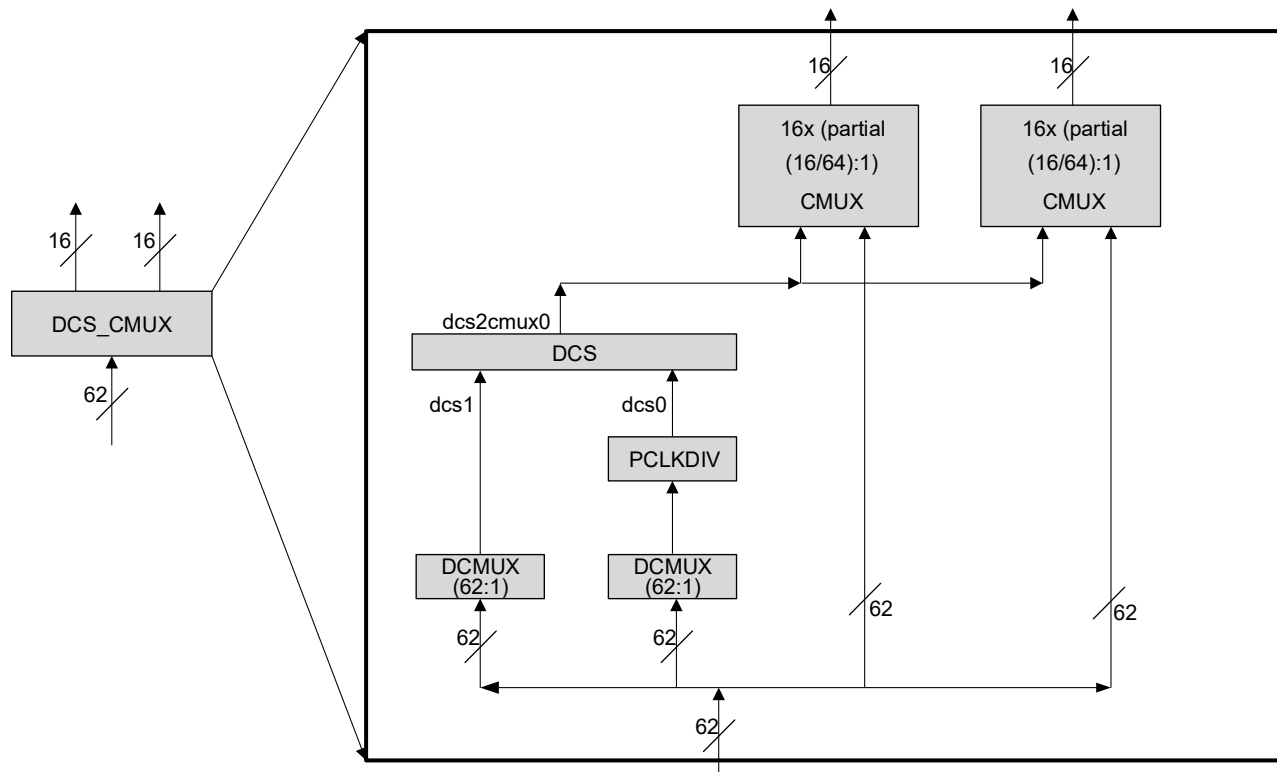

Figure 2.9. DCS_CMUX Diagram
The PCLKDIV supports $\div 2$, $\div 4$, $\div 8$, $\div 16$, $\div 32$, $\div 64$, $\div 128$, and $\div 1$ (bypass) modes. The PCLKDIV is fed from a DCSMUX within the DCS_CMUX block. The divider output drives one input of the Dynamic Clock Select (DCS) within the DCS_CMUX block. The reset (RST) control signal is asynchronous and drives all outputs low. After the reset is synchronously released, the divider output resumes operation on the next cycle. Figure 2.9 shows the PCLKDIV in context.
All clock sources are selected and combined for primary clock routing through the Dynamic Clock Selector Center Multiplexer logic (DCS_CMUX). There are one (1) or two (2) DCS_CMUX blocks per device. Each DCS_CMUX block contains two DCSMUX blocks, one PCLKDIV, one DCS block, and 1 or 2 CMUX blocks. See Figure 2.9 for a representative DCS_CMUX block diagram.